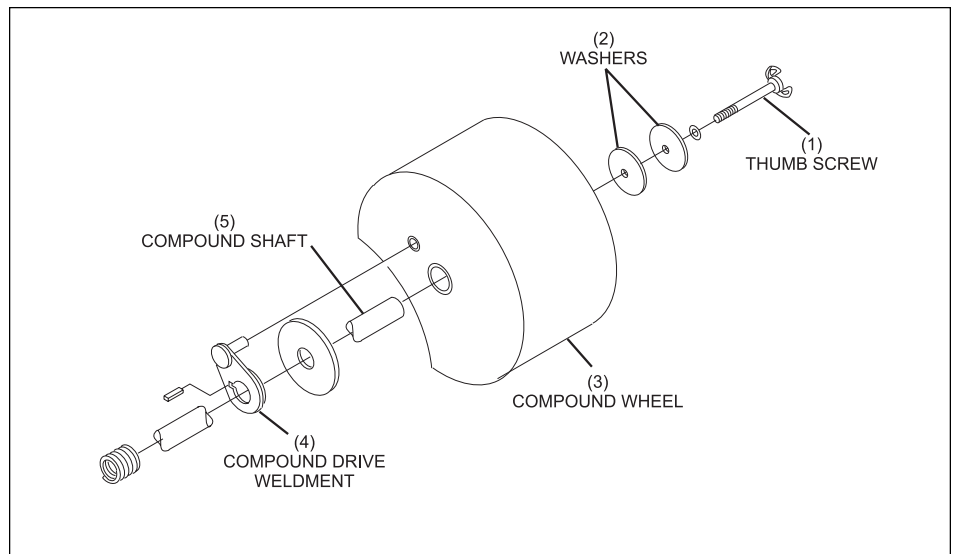

Figure 19. Remove Thumb Screws and Washers
6. Remove the thumbscrew and washers that secure the compound block to the compound shaft. Refer to *Figure 19*.